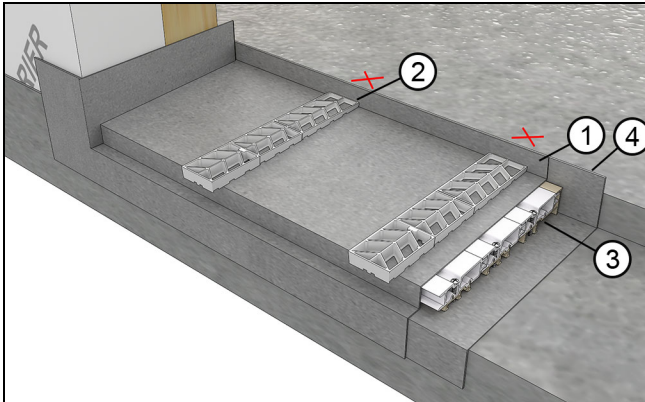

Figure 13 Set counter-shims
3. Place the counter-shims in the panning every 10"(254) using the marks you made earlier as a guide. The counter-shims should be placed beside the fastener locations (opposite side of the drain routes). See Figure 13.